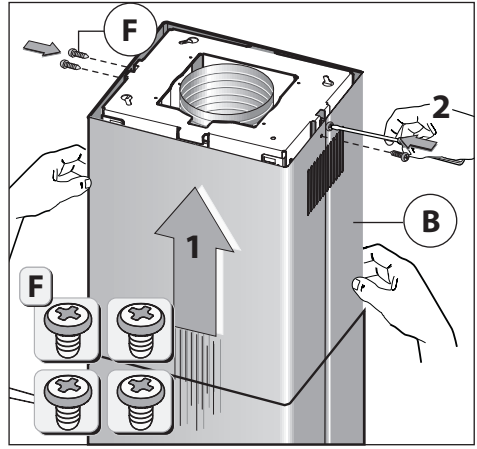

Fig.13
- Fix the upper chimney **B** to the structure with the 4 screws **F** (fig.13).
- If necessary, fix the lower duct to the hood from the inside, using the screws **P** (Fig.13). Re-locate the filters in their seat.